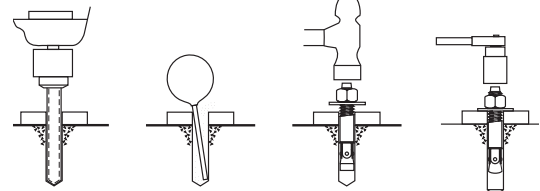

Fig. 2
- Tighten the bolts of the anchors with a torque wrench (Fig.2).